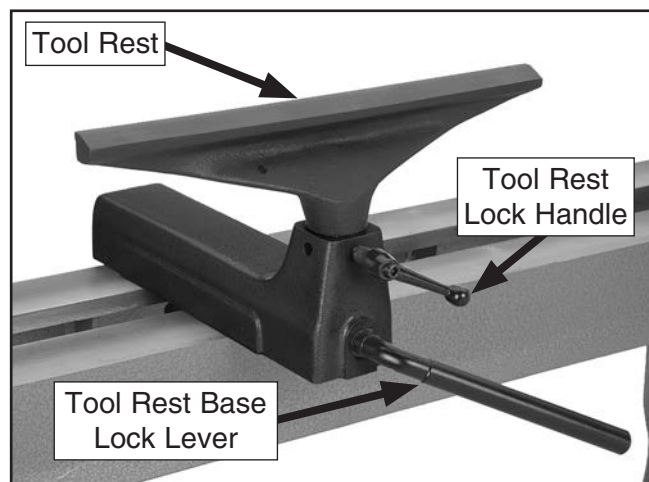

Figure 23. Tool rest controls.
1. Loosen the tool rest base lock handle and move the tool rest assembly to the desired position on the lathe bed, as shown in **Figure 23**.